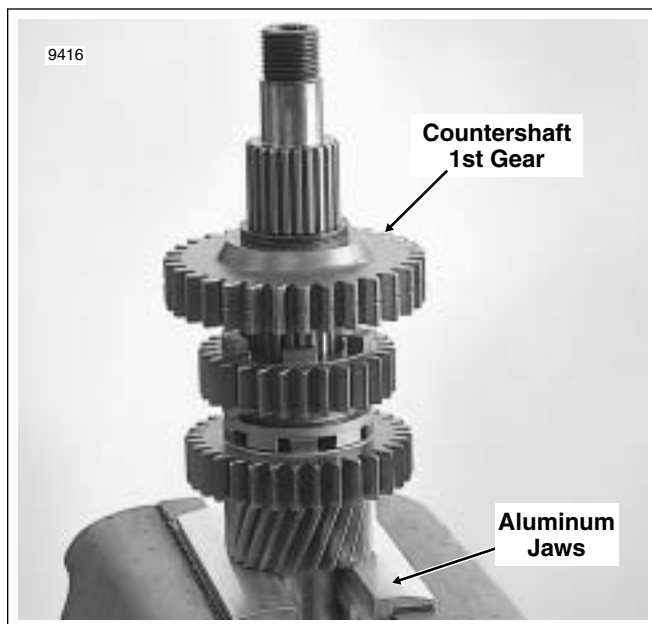

Figure D-4. Disassemble/Assemble Countershaft
8. Secure countershaft in a vise with the threaded end top-side. Be sure to install a pair of aluminum or brass jaw inserts in vise to avoid parts damage. See Figure D-4.
16. Slide the thrust washer down the countershaft until it contacts the retaining ring. Lightly coat the split cage bearing with oil and install in the race just above the thrust washer. Install countershaft 1st gear (spur with single row of indents on teeth) with the taper up. Install second thrust washer and **new** retaining ring. See Figure D-4.